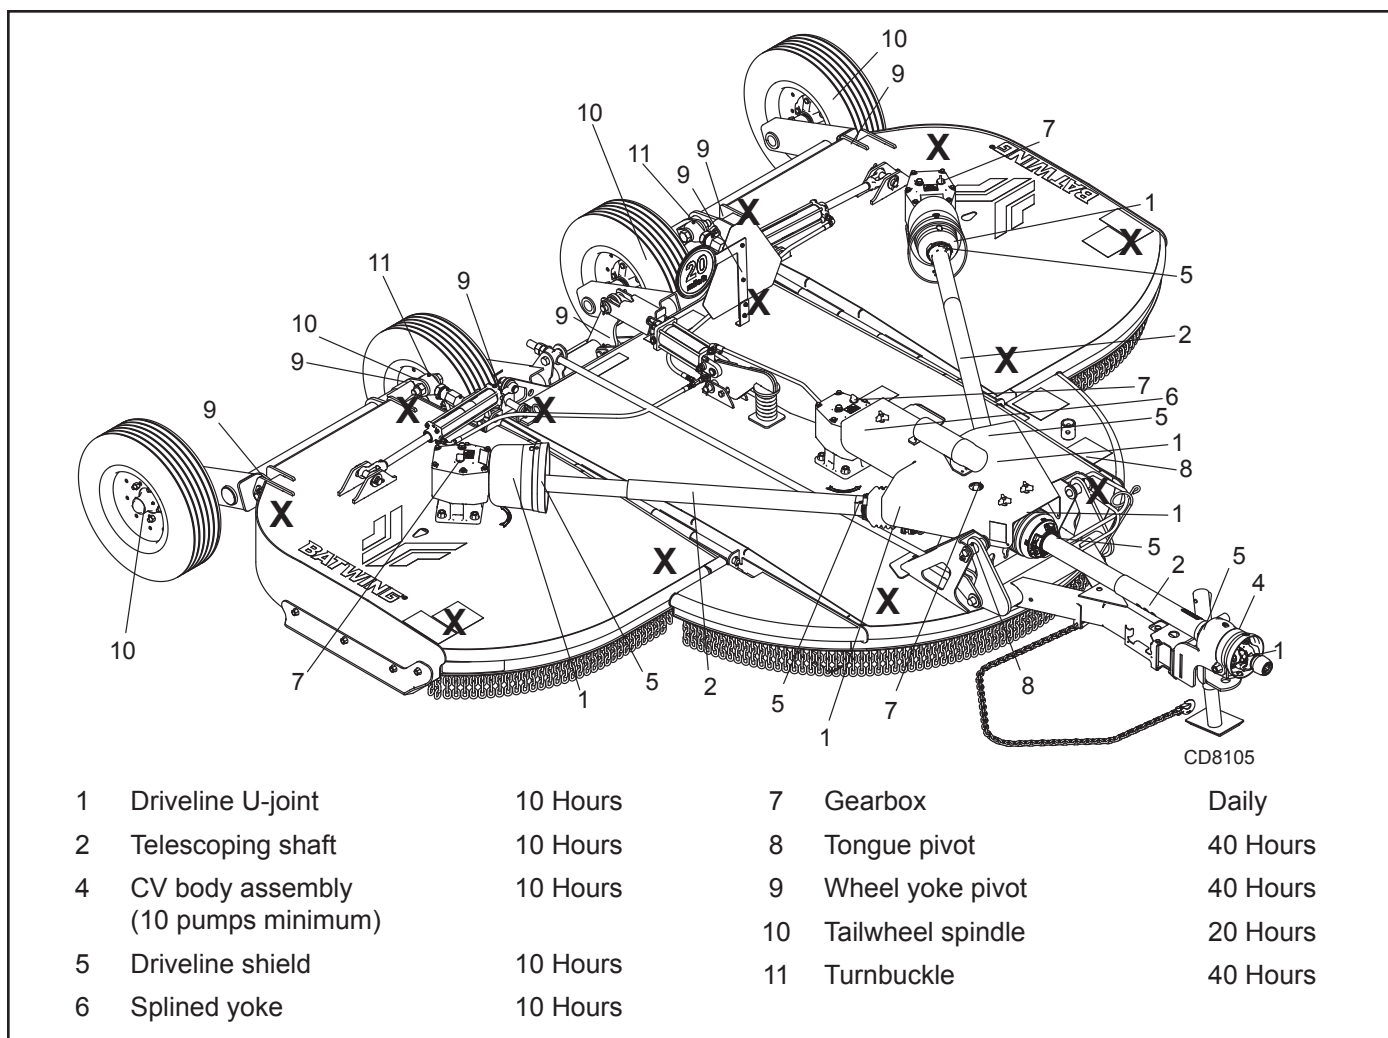

Figure 6. Jackstand Placement and Lubrication Points
1. Jackstands with a load rating of 1000 lbs. or more are the only approved blocking device for this cutter. Install jackstands (shown by Xs in Figure 6) under the cutter before working underneath unit.
See Figure 6 for lubrication points and frequency or lubrication based on normal operating conditions. Severe or unusual conditions may require more frequent lubrication.
2. Raise cutter and block securely (see Figure 6).
3. Align crossbar (24) with blade access hole in the cutter frame. Remove cap screw (37), blade pin lock clip (11), keyhole plate (10), and shims (7). Carefully drive blade pin (18) out of crossbar.